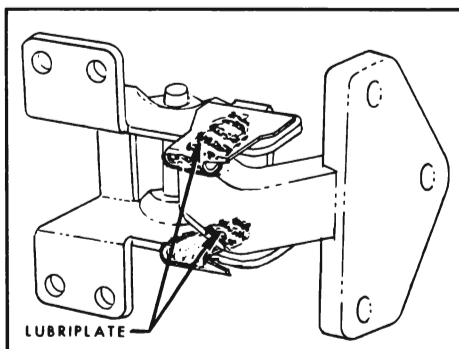

Figure 1-14—Lubrication of Front Door Hinge and Hold-Open Clips
1. Front Door Hinge Hold-Open Clips. Wipe off dirt and apply a light coat of Lubriplate or its equivalent to hold-open clips as shown in Figure 1-14. The hinge pins should be lubricated with engine oil.